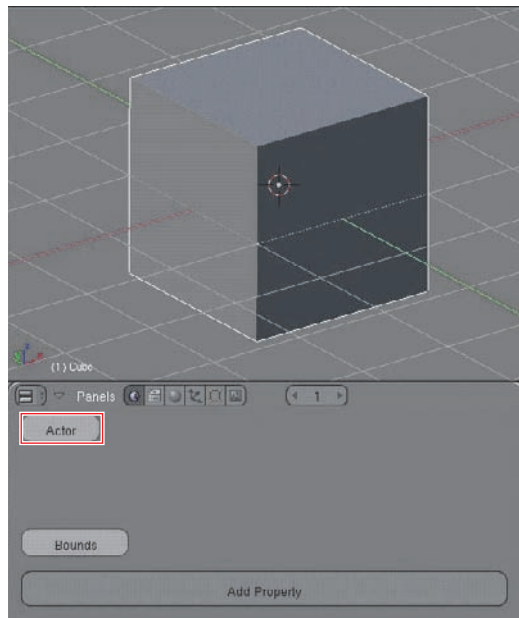
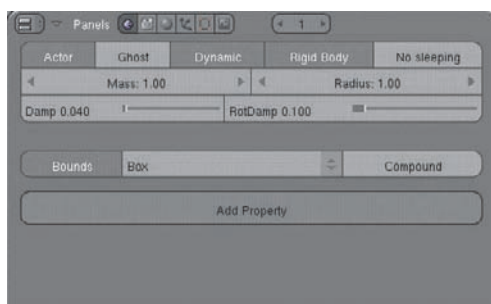

Figure 6.5
Figure 6.6
4. In the Buttons area, click Actor, as shown in Figure 6.5. Set the parameters of that panel as shown in Figure 6.6. Select Dynamic and Rigid Body, and select Box from the Bounds drop-down menu. You have now activated the cube as a physical object in BGE.